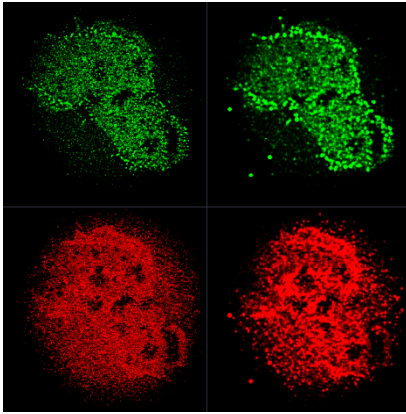

Fig. 592 Split view tab - don't group selected
- **don't group**: each selected channel will be displayed individually (HR1, HR2, etc. single; SWF1, SWF2, etc. single) (Fig. 592).